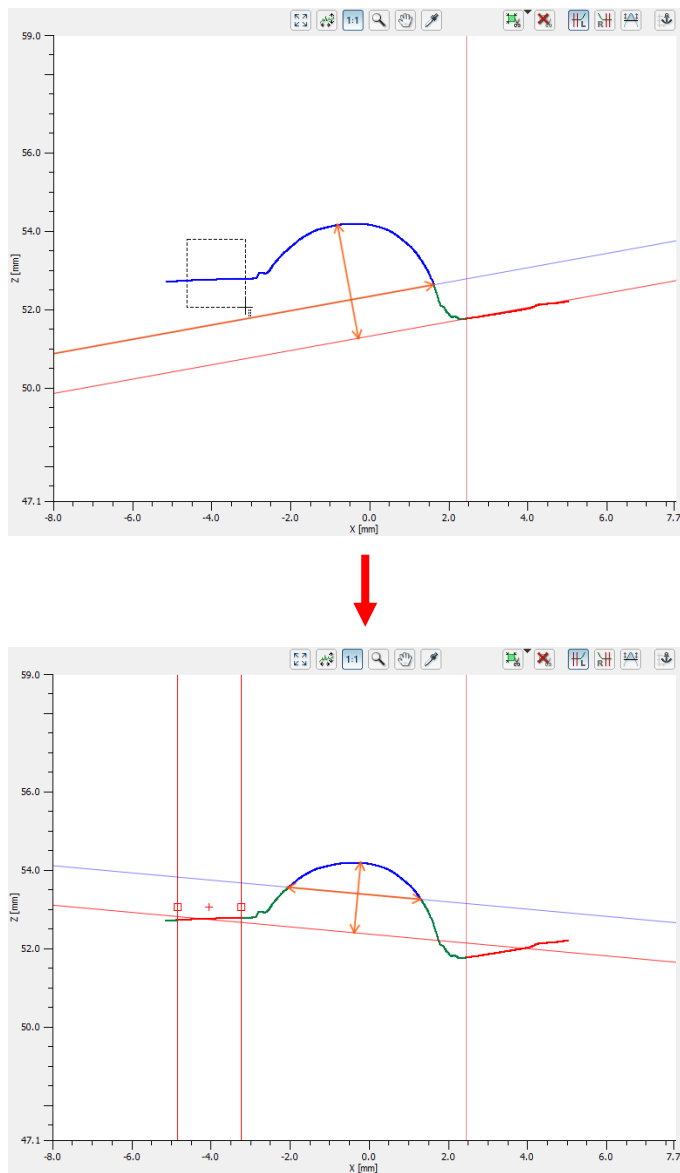

Fig. 3.34: "Set reference line" buttons
If not already done, press one of the "Set reference line" buttons (see Fig. 3.34) in the "Measurement" toolbar. There are various buttons, depending on the measuring program, for the line fitting. After you have pressed a button, you are in the "Set reference line" mode. The button remains pressed and the range for line fitting is shown with red and blue vertical lines in the 2D-display if it is located in the displayed range.
► If not already done so, activate the "Set reference line" mode (see above, Fig. 3.34).